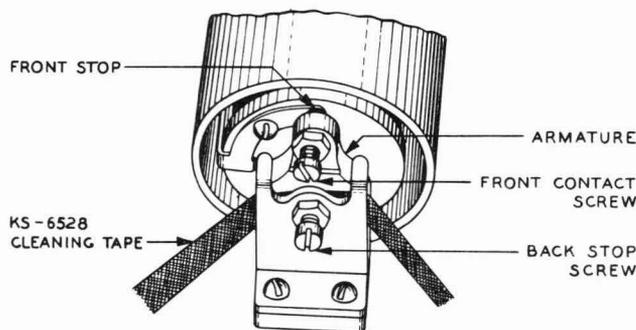

Fig. 57 – Method of Cleaning Backstop Screws on 89-, 101-, 105-, 108-, 117-, 118-, and 190-type Relays
7.19 To clean the front contact screw and front-stop, fold the tape lengthwise and, while holding the armature in the operated position, pass it between the screw and the frontstop. To clean the backstop screw, fold the tape lengthwise and pass it between the screw and the armature as shown in Fig. 57.